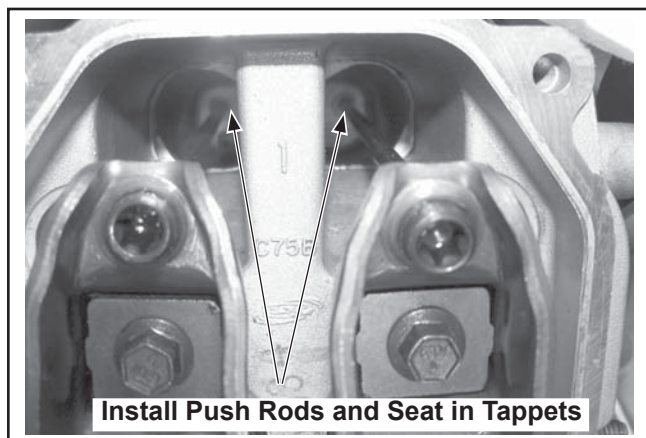

Figure 10-49. Installed Push Rods.
- Note the mark or tag identifying the push rod as either intake or exhaust and cylinder #1 or #2. Check that each push rod is straight and not bent. Dip the ends of the push rods in engine oil and install in their original positions, making sure that each push rod ball seats in its tappet socket. See Figure 10-49.